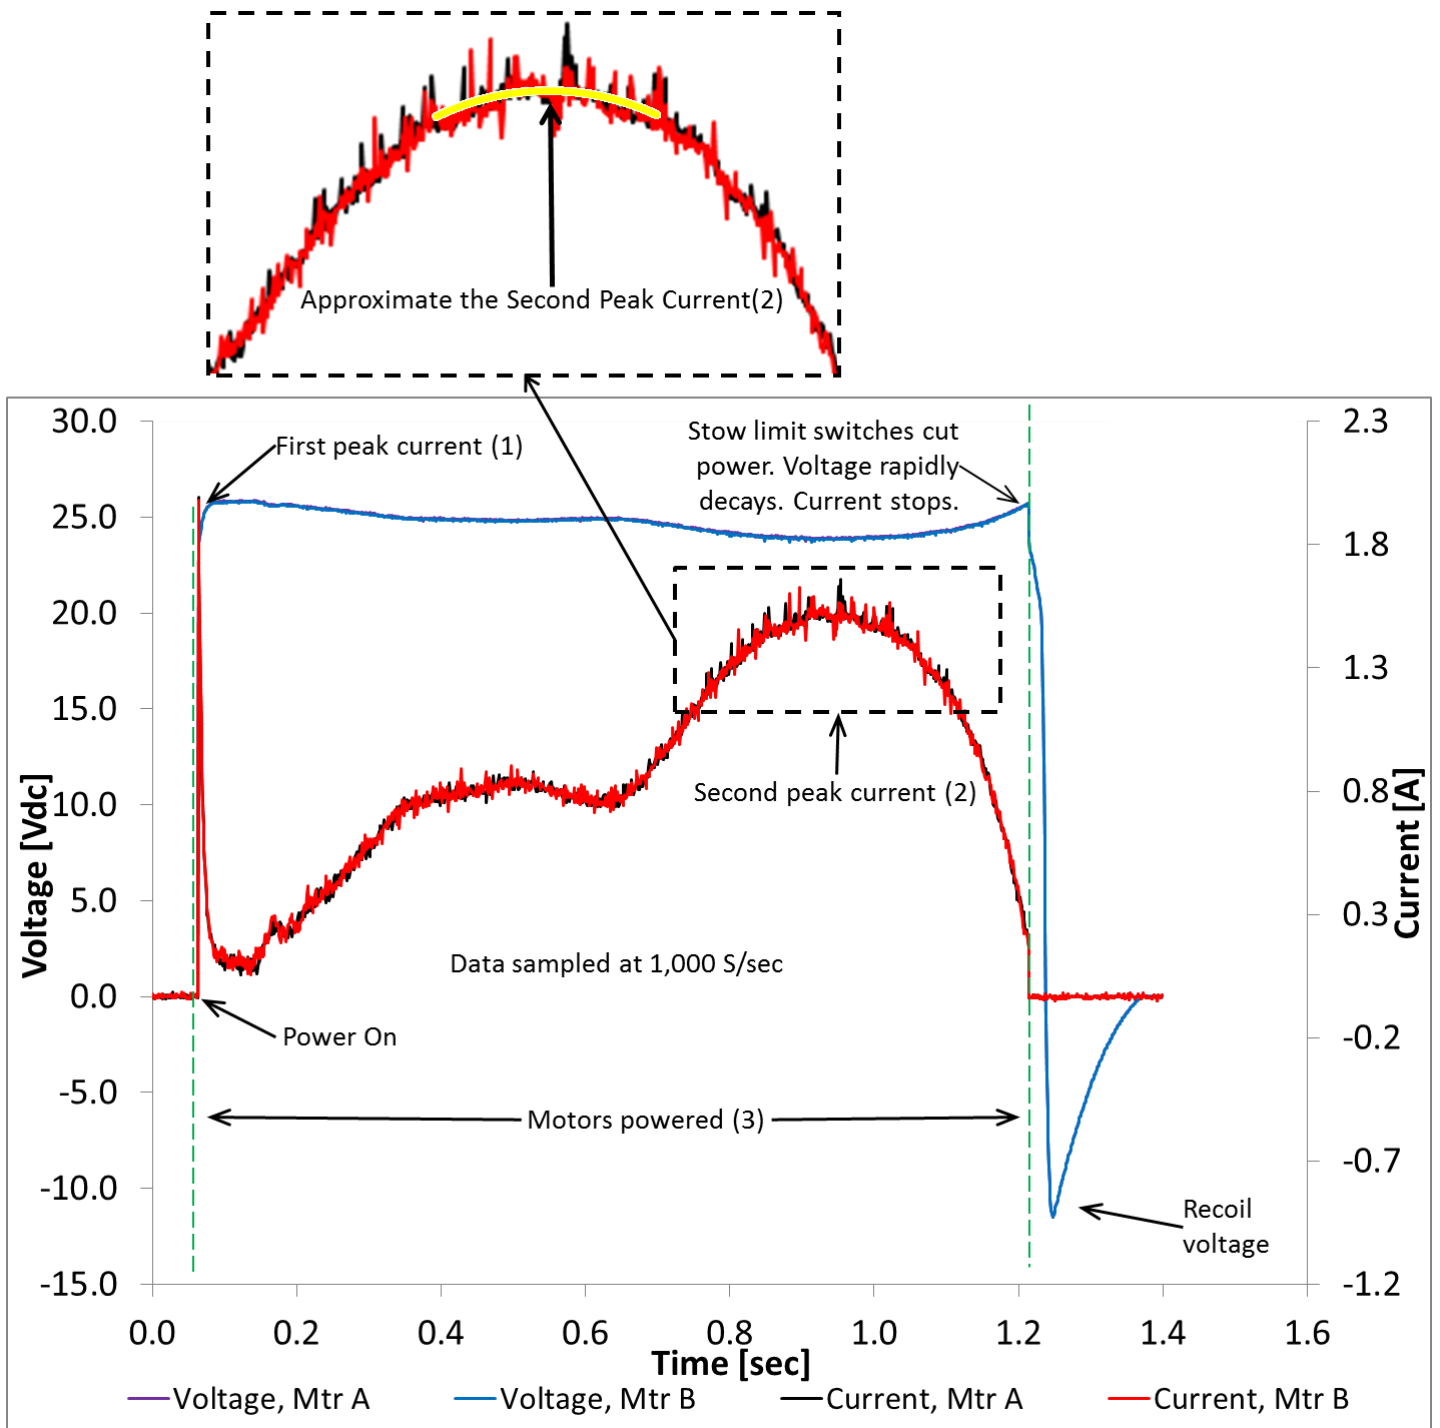

Figure 21: Typical stow voltage and current profiles at P = 1.0 Atm and T = +23 deg C
7.2.11	<p>Prepare to stow the Lightband. See Figure 21 and Table 1 for the anticipated current draw and power duration.</p> <p>When ready apply power to stow the Lightband.</p> <p>If the current limit is reached or the timer relay runs longer than the specified time manually cut power. Contact PSC immediately. A visual inspection of the Lightband may be performed, but do not change configuration.</p>
7.2.13	<p>Figure 21 shows typical stow voltage and current profiles. Complete Table 1 to verify all parameters are within tolerance. Single data point exceedances are acceptable. Also, a slow sample rate may alias data. Do not filter data. Contact PSC immediately if a discrepancy is found.</p>